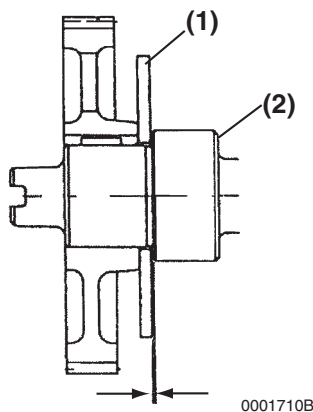

Figure 4-2-47
- **Method B:** Use a feeler gauge to measure the clearance between the thrust plate (**Figure 4-2-47, (1)**) and front camshaft bearing (**Figure 4-2-47, (2)**). Record the measurement. See "3-2 Engine Service Standard" section for the service limit.